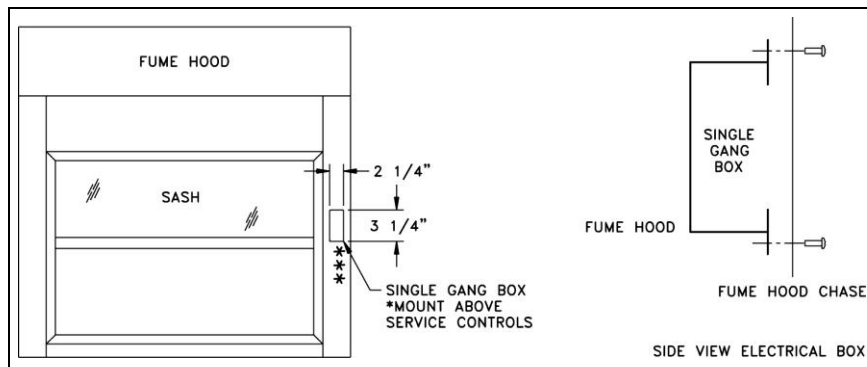

Figure 7: SUREFLOW™ Controller Mounting
2. Cut a hole at this location, sized to mount a standard single gang electrical box (2¼" wide × 3¼" long) (Figure 7).
3. Mount a single gang electrical box. The electrical box must be mounted inside the fume hood face panel (Figure 7).
1. Attach mounting bracket to single gang electrical box per Figure 7.